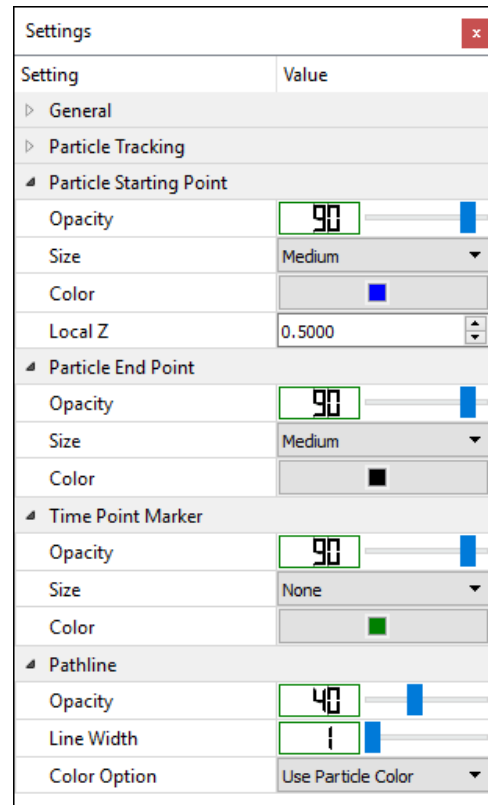

Figure 174. The Particle Starting Point, Particle End Point, Time Point Marker, and Pathline groups of the Settings window for MODPATH
- Ctrl-click the mouse at the desire location on the map to add a particle. The vertical coordinate of the particle is defined by $z = z_{bot} + z_L \cdot (z_{top} - z_{bot})$, where z_{bot} and z_{top} are the elevations of layer bottom and top, respectively, and z_L is the local vertical coordinate defined by Local Z (see Figure 174) in the settings window.
3. Particle Starting Point (Figure 174)
- 4. Particle End Point (Figure 174):** particle end points are displayed as diamonds on the map viewer, and they represent the particle stop locations.
- 5. Time Point Marker (Figure 174)**
- 6. Pathline (Figure 174)**